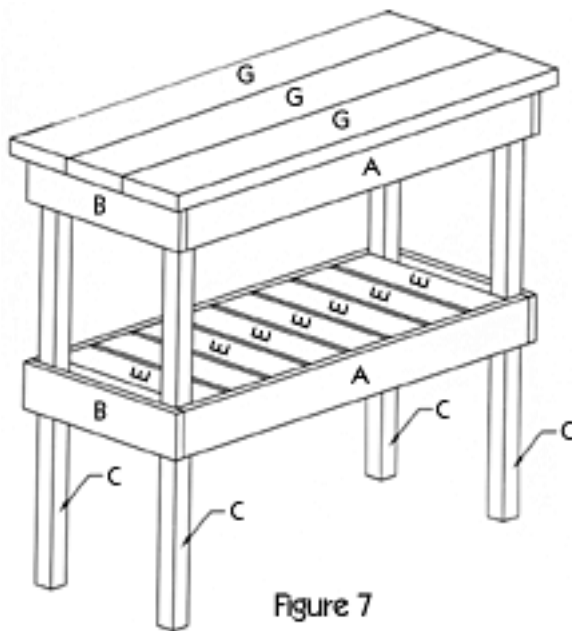

Figure 7
Cut three Top Boards (G) from 5/4" x 6 deck boards. Place the three Top Boards (G) over the top, as shown in figure 7. The Top Boards (G) will overhang the top by 1" on all four sides. Apply glue to the meeting surfaces, and nail through the Top Boards (G) into the Long Sides (A), Short Sides (B) and Top Support (F), using two 2" wood screws on each joint.